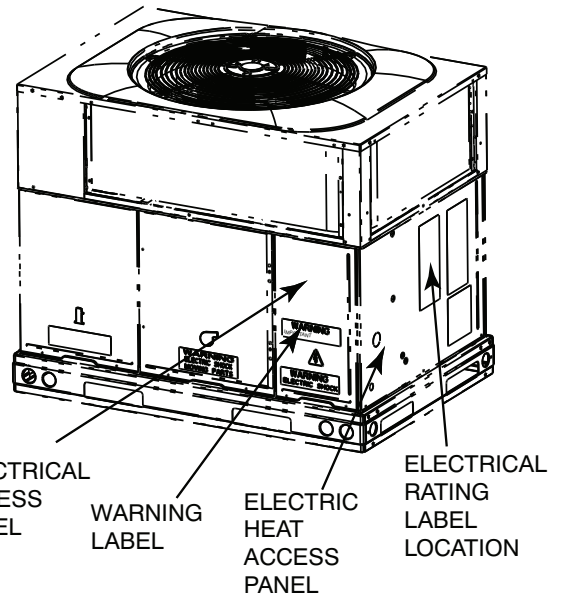
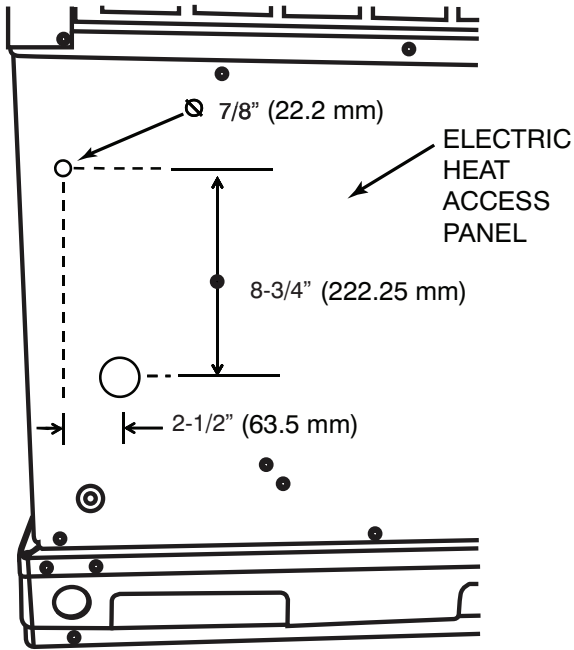

Fig. 3 - Panel and Label Location
Fig. 2 - Second Power Line Access Hole Location
2. Remove electric access panel (see Fig. 3), check to make sure there is clearance on the inside of control box above the existing high voltage knockout. Using a knockout punch and die combination, make a 7/8-in. hole on the Electrical Heat access panel for second power circuit (see Fig. 2). A knockout punch and die combination or equivalent tool is required to make this hole. Other types of drill bits or standard hole saws are not acceptable.
3. Attach warning and rating labels in the selected location (see Fig. 3).